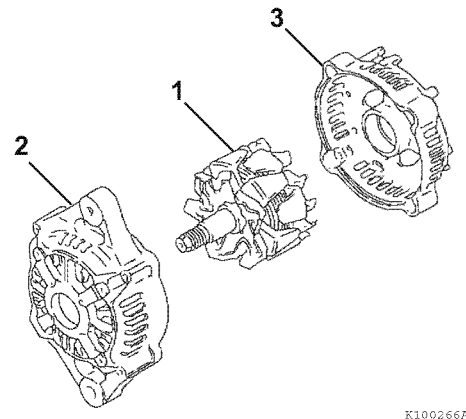

Figure 12-9
8. Using a press, remove the rotor assembly (1, **Figure 12-9**) from the front frame housing (2, **Figure 12-9**) and rear frame housing (3, **Figure 12-9**).